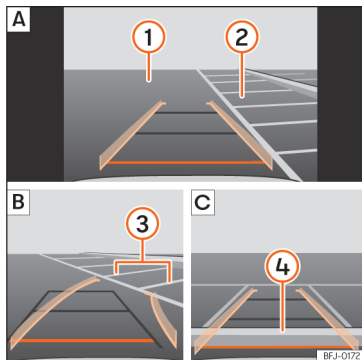

Fig. 216 Display on the Infotainment system screen.: parking with reverse assist.
Key to the **Fig. 216**:
- Place the vehicle in front of the parking space **» Fig. 216 2 A**.